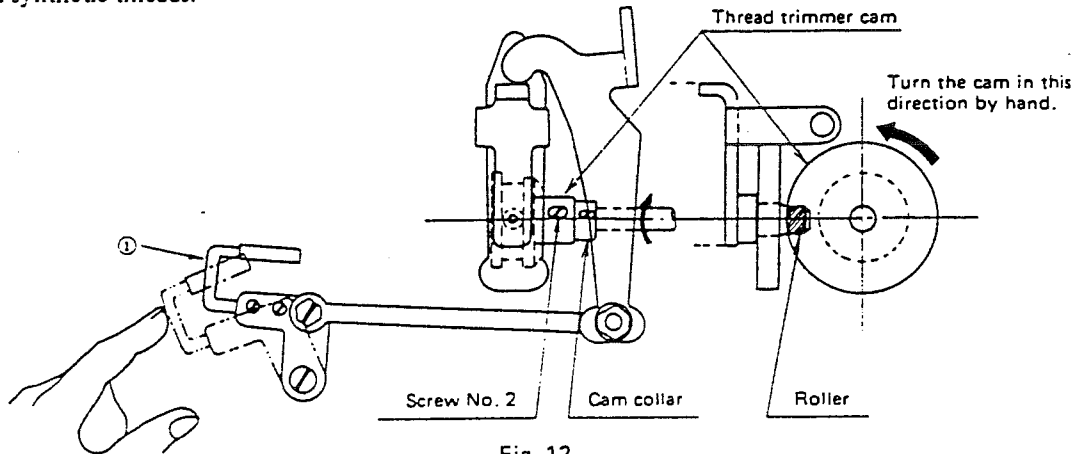
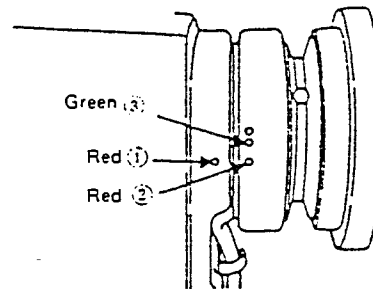

Fig. 12
Fig. 13
Tilt the machine head, manually turn the handwheel until the thread take-up lever almost reaches its highest position, and press thread take-up picker ① in Fig. 12 to the right by finger. This causes the cam roller to fit in the groove of the thread trimmer cam. With this condition maintained, turn the handwheel in the direction opposite to the normal rotational direction, and you will find a position in which the handwheel no longer turns. Then, adjust the cam timing so that marker dot ① (Fig. 13) on the machine arm is aligned with marker dot ② (Fig. 13) on handwheel as shown in Fig. 13. This provides the proper cam timing for cotton and synthetic threads.
Loosen screw No. 1 first, and then screw No. 2 (Fig. 12), and align red marker dot ② on the handwheel with red marker dot ① on the machine arm.
Fit the cam roller in the groove of the cam while pressing thread take-up picker ① (Fig. 12) to the right. Manually turn only the cam (do not turn the hook driving shaft) in the direction opposite from the normal rotation of the hook driving shaft (see the arrow in Fig. 12) until a position in which the cam goes no further is reached. In
this position, press the cam against the thrust collar of the thread trimmer cam (Fig. 12), and retighten the screw No. 2 first and then the screw No. 1. If the cam collar has not been moved, press the thread trimmer cam against the cam collar, and retighten the screw No. 2 first and then the screw No. 1.
- ① A few beginning stitches are skipped.
- ② Thread slips off the needle at the start of sewing.
- ① Align marker dot ① (Fig. 13) on the machine arm with green marker dot ③ (Fig. 13) on the handwheel.
- ② Use the soft start function for the first starting stitch.
- ⑥ Align red dot ② (Fig. 13) on the handwheel with red dot ① (Fig. 13) on the machine arm.
Check whether the tension disc No. 2 floats 0.5 to 1 mm (0.019" to 0.039") when thread take-up picker ① (Fig. 12) is pressed to the right with the thread take-up lever located slightly below its highest position and the presser foot lifted.